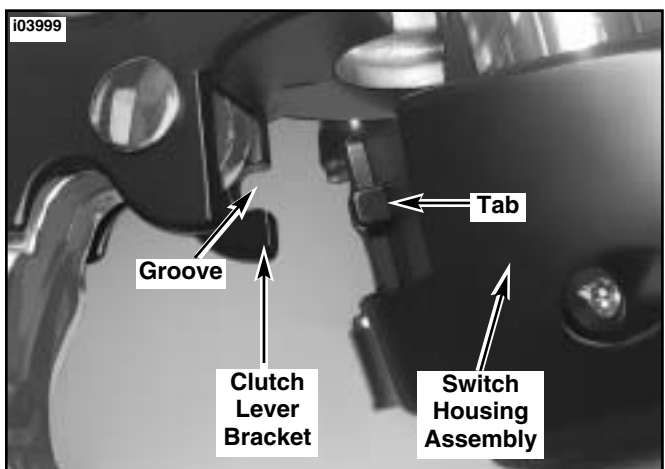

Figure 9. Positioning Clutch Lever Bracket with Left Handlebar Switch Housings
40. See Figure 9. Position the clutch hand lever assembly inboard of the switch housing assembly engaging the tab on the lower switch housing in the groove at the bottom of the clutch lever bracket. Be sure that harness will not be pinched when installing handlebar clamp. Harness should reside in recess between handlebar clamp and clutch lever bracket.